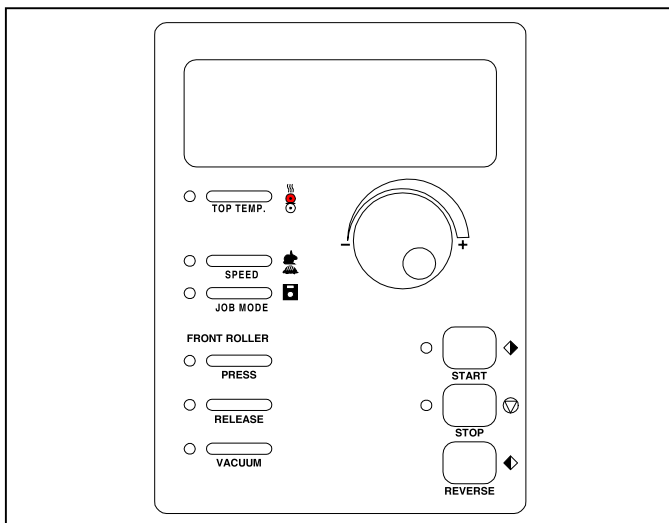

Fig. 7
**B. CONTROL PANEL:** (Figure 7)**CONTROL PANEL DISPLAY:**